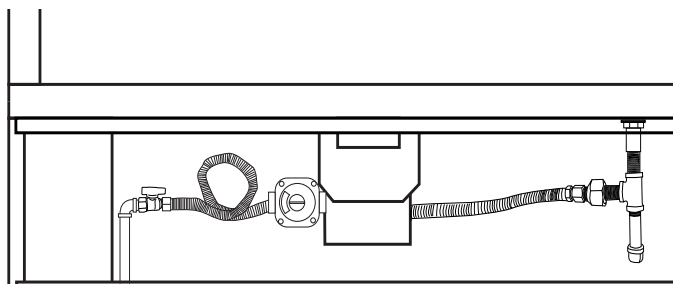

Figure 1 - Close up view of inlet gas connection with shutoff valve
GAS LINE: The gas line must have a predetermined location to enable it to be installed. **Figure 1** shows one example of an inlet gas line with a gas shut off at the fireplace. This allows a technician to shut the inlet gas supply OFF and remove the burner for servicing. **It is imperative that the flex line from the gas shutoff be long enough to lift out burner pan for service.** Ensure you follow the local and state gas codes per your installation.
3. The primary gas shutoff (supplied) will require a 1/2" male flared fitting to enable connection of the stainless steel flex gas line supplied with the fireplace (See **Figure 1, Page 5**).
NOTE: Preparation for the LED lighting and the inlet gas line must be planned before the fireplace is installed. See Page 5, Figure 1 for inlet gasline and Page 15 for LED lighting.